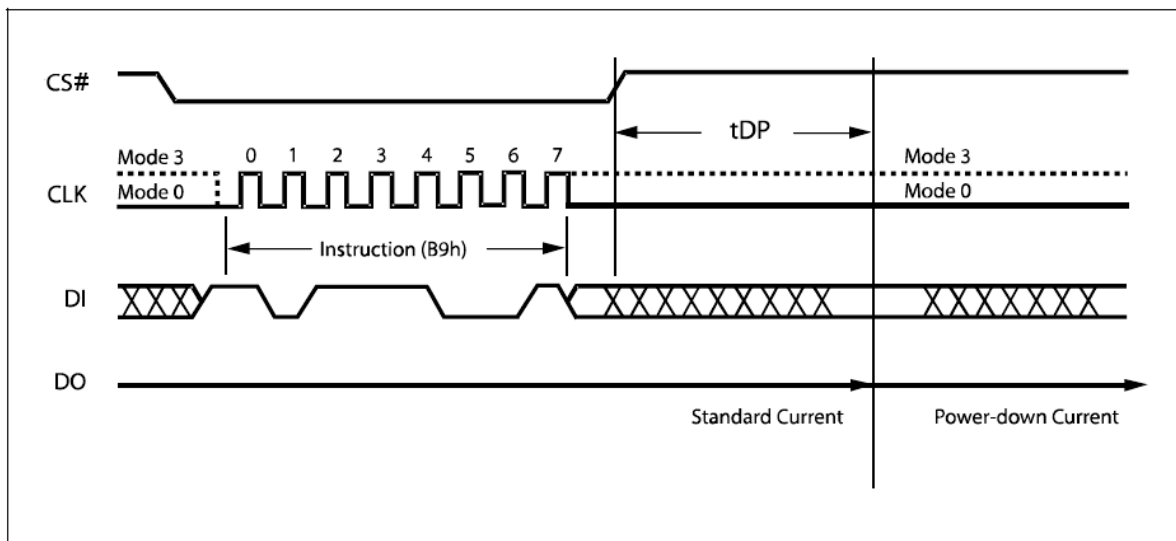

Figure 20. Deep Power-down Instruction Sequence Diagram
The instruction sequence is shown in Figure 20. Chip Select (CS#) must be driven High after the eighth bit of the instruction code has been latched in, otherwise the Deep Power-down (DP) instruction is not executed. As soon as Chip Select (CS#) is driven High, it requires a delay of t_{DP} before the supply current is reduced to I_{CC2} and the Deep Power-down mode is entered.